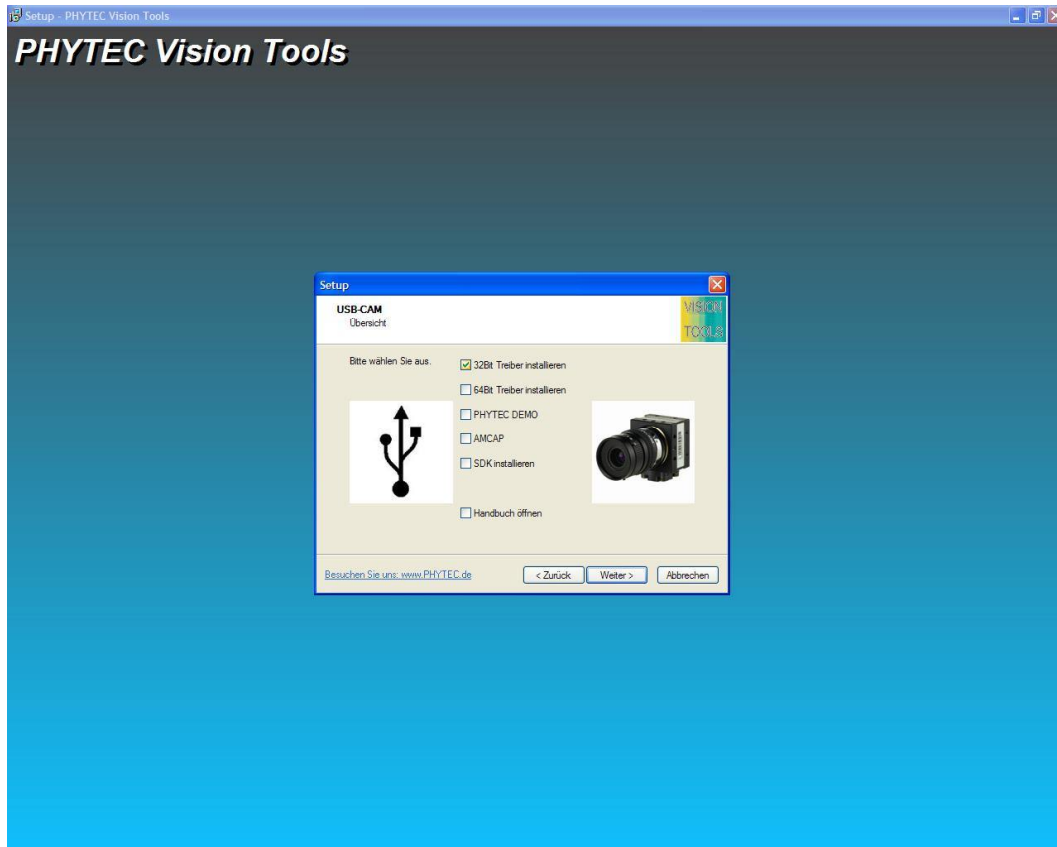

Figure 9: Installation Menu for the USB Camera
- Click on *USB-CAM*. You will be taken to the installation menu for the PHYTEC USB Camera. Install 32Bit Driver (*Figure 9*) and click on *Next*. To install the 64Bit driver please select the ‘Install 64Bit Driver’.